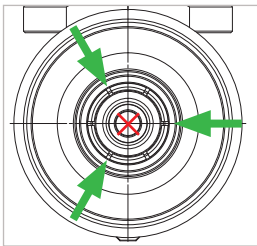

Figure 10
**Note:** Make sure that no cleaning agent gets into the gas channel (*Figure 10*).
- ▶ Spray once briefly using the small dispensing tube between every second clamping jaw (*Figure 10*).
**Attention:** The lubricant must not be allowed to enter the gas channel (*Figure 10*).